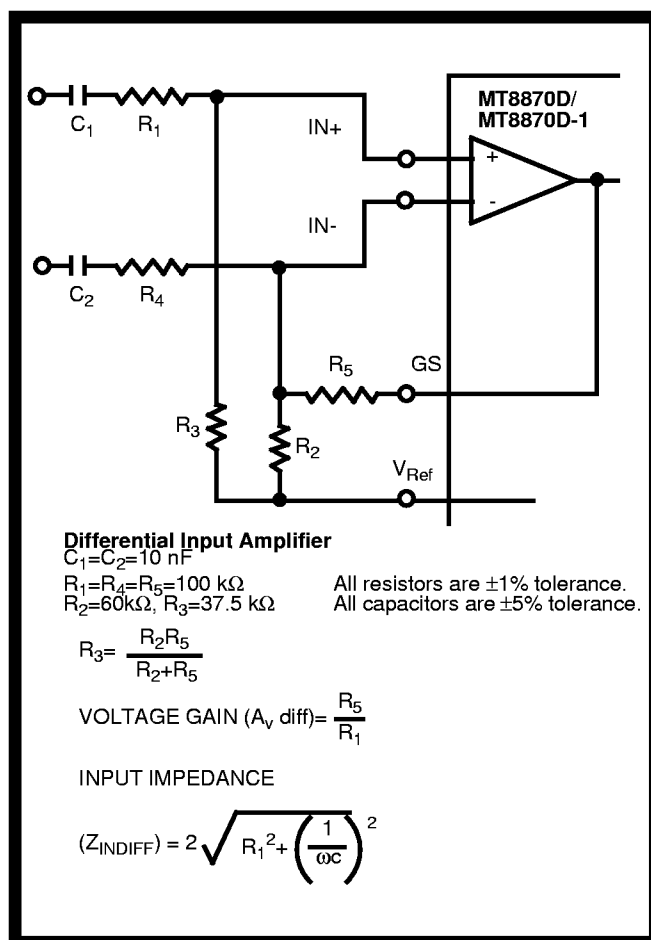

Figure 6 - Differential Input Configuration
| 4     | 4     | V Ref | Reference Voltage (Output). Nominally V DD /2 is used to bias inputs at mid-rail (see Fig. 6 and Fig. 10).                                                                                                                                                                                                                                                                              |
The input arrangement of the MT8870D/MT8870D-1 provides a differential-input operational amplifier as well as a bias source ( $V_{Ref}$ ) which is used to bias the inputs at mid-rail. Provision is made for connection of a feedback resistor to the op-amp output (GS) for adjustment of gain. In a single-ended configuration, the input pins are connected as shown in Figure 10 with the op-amp connected for unity gain and  $V_{Ref}$  biasing the input at  $\frac{1}{2}V_{DD}$ . Figure 6 shows the differential configuration, which permits the adjustment of gain with the feedback resistor  $R_5$ .